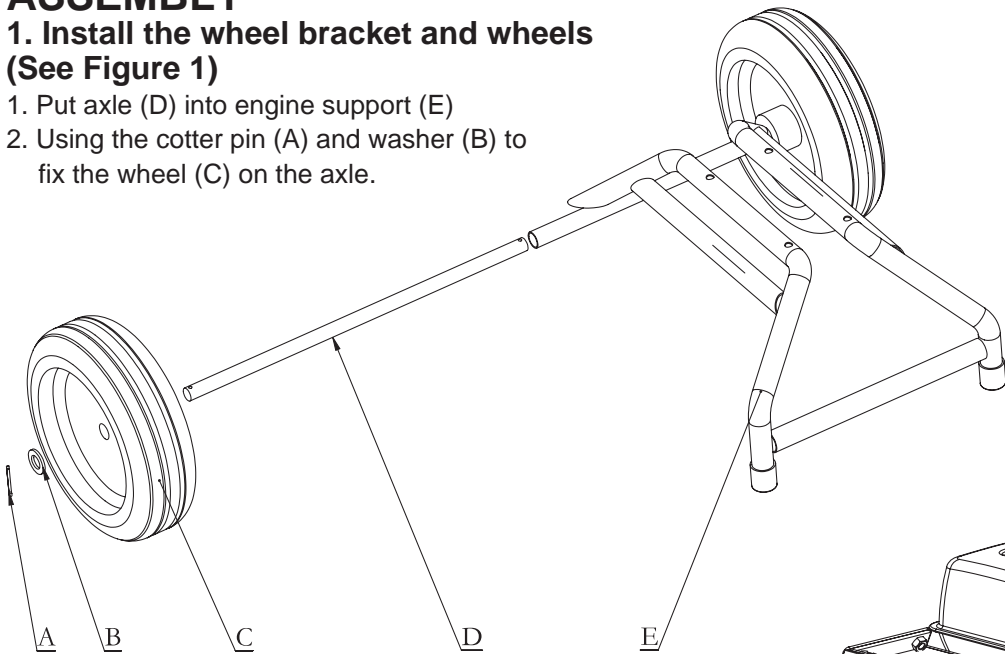

Figure 1
1. Install the wheel bracket and wheels (See Figure 1)